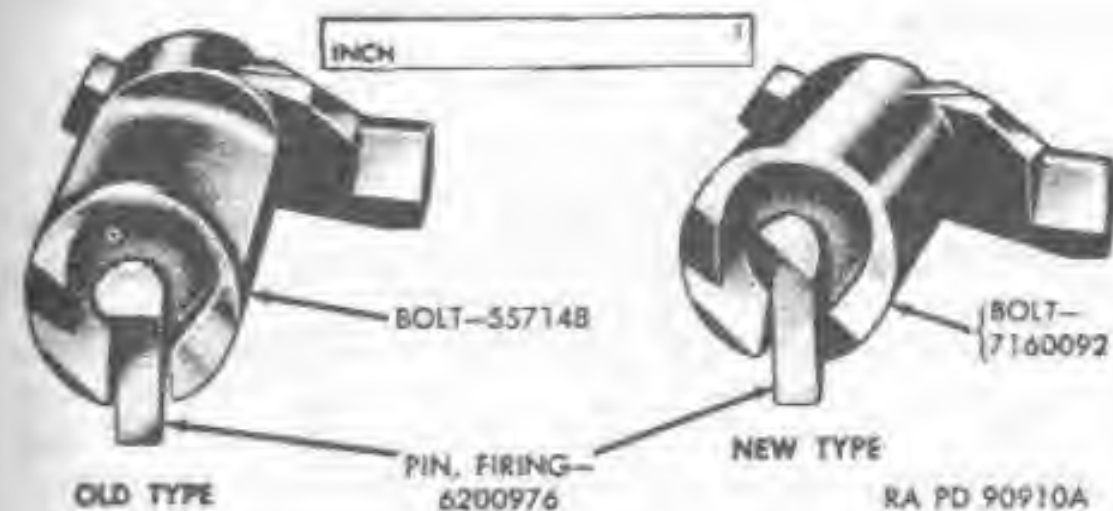
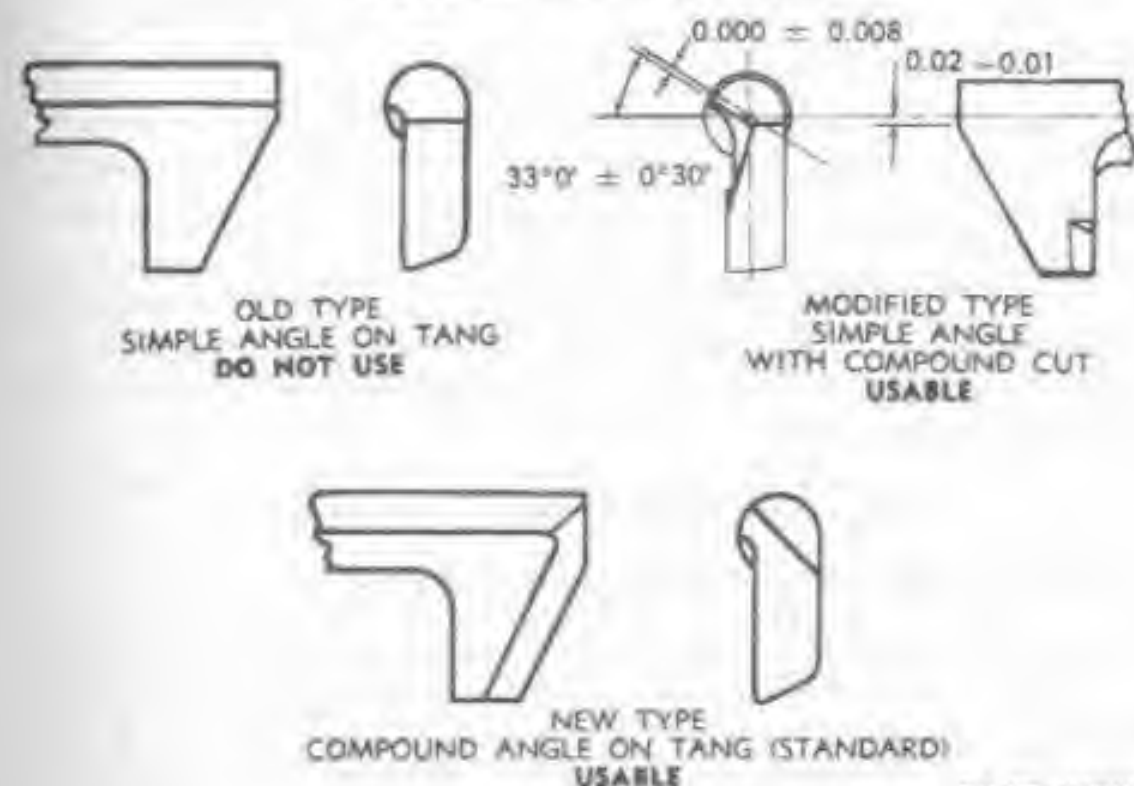

Figure 61. Bolt and firing pin.
Figure 62. Firing pin 6200976.
- h. Check to assure that only the new type or modified type firing pin (fig. 61) is used. The old type pins can be modified by depot maintenance if the quantity involved warrants the work required to accomplish this (fig. 62). Function test bolt and firing pin (par. 46).